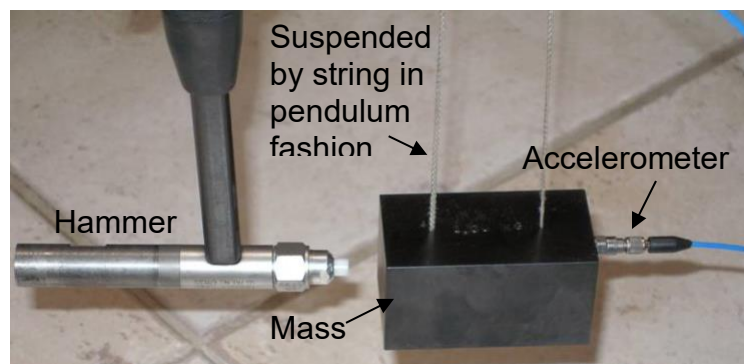

Figure 61: Sensor calibrations setup
The experimental setup needs to allow the application of a force to a mass and then measure the acceleration of that mass. One of the most important parts of the setup is to suspend the mass such that it is free to swing in a pendulum fashion, see Figure 61.
Step 1: Suspend the mass from a string as shown in Figure 61. The longer the length of the string the better.